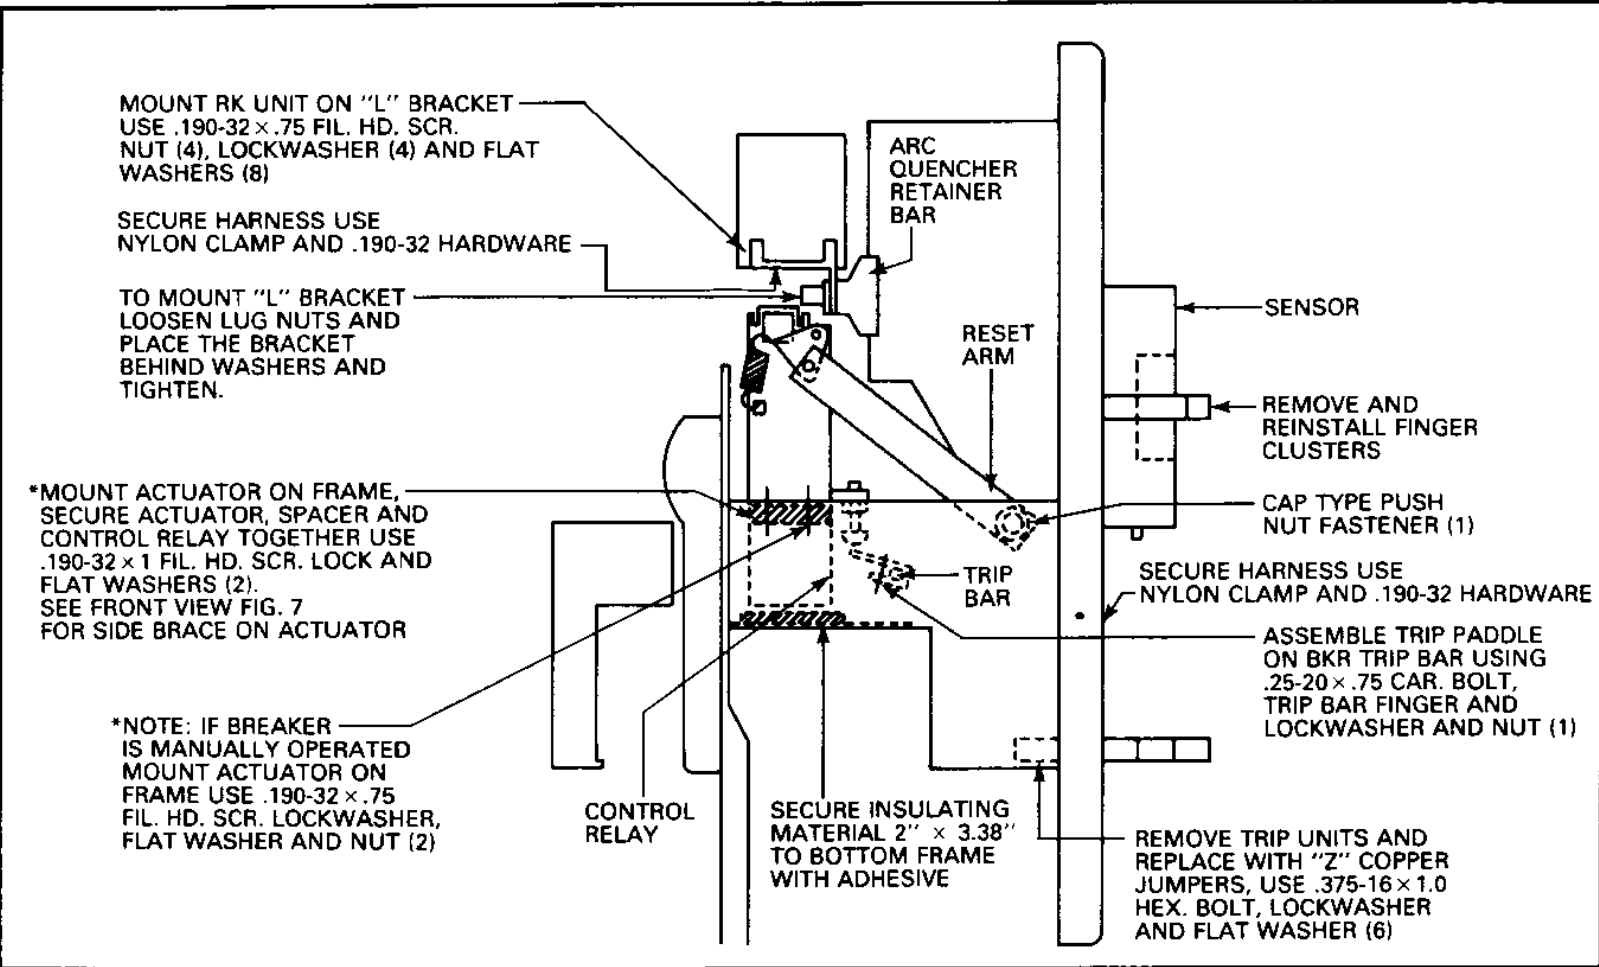

Fig. 5
- Step 2: Assemble trip paddle on breaker trip bar using 25-20 x .75 carriage bolt trip bar finger and elastic nut, do not tighten nut. Fig. 5
- Step 3: Position the actuator above the holes that held the control relay, slide the bottom of the reset arm on the .50 shaft on the right side of breaker, and attach the cap type push nut fastener. Fig. 5
If the breaker is to be manually operated Steps 4 and 5 are not required. Secure actuator to frame Fig. 5. Use .190-32 x .75 Fil. Hd. Scr., lockwasher, flat washer and nut.
Step 7: Move the assembled trip paddle to line up directly under the trip adjustment screw on the actuator. Spacing between the trip paddle and trip adjustment screw is approximately $\frac{1}{8}$ " with breaker in closed position. See Fig. 5.
2. Secure the RK unit to the bracket using the .190-32 x .375 Fil. Hd. Scr., washers, lockwasher and nut, Fig. 5. and 7.
Attach the ground lead to the screw holding the actuator-spacer and control relay Figs. 5 and 6. This now grounds the sensor star point.
6. Remove the finger clusters from the three upper stabs, place the sensors on the studs Fig. 5. Now re-install the finger clusters.